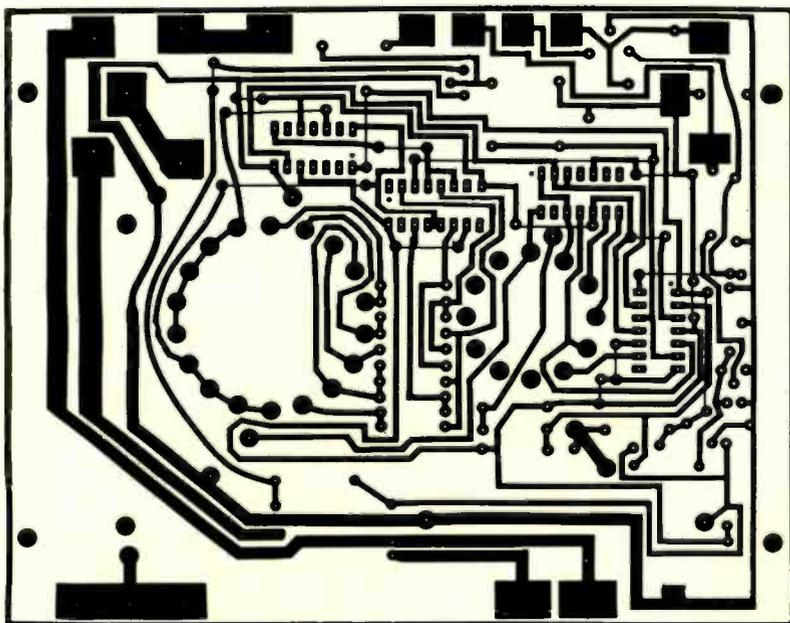

FIG. 6—PATTERN FOR THE PC BOARD. It is 6 inches wide and 4 1/4 inches high overall. Use it to make photographic copy for your board.
MISC: 4 1/2" x 6" PC board (See text and Fig. 3, 4 and 5), case, bottom plate, end brackets (2); switch hardware; 1 1/4" push-on knobs; dial assemblies including 3/4" knob (2), (See Fig. 6 and 7); mounting bracket and red filter (APM 1813-27-R5) and socket for pilot lamps (2); 3 prong ac safety outlets (2); PC board mounting brackets (2); Line cord and strain relief; feet (4); 6-32 hardware; Jumpers, sleeving, wire, solder, ground lug, remote control plug and socket, etc. . . .
A printed-circuit board is a must for this project and may be obtained commercially or the pattern in Fig. 6 may be used. Drilling and layout details are given in Figs. 2 and 3. Fig. 4 shows component and wiring locations.